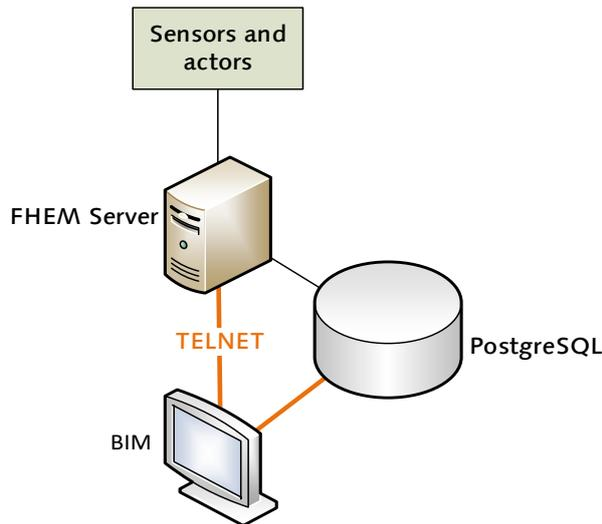

Figure1: Contributors in the part system
A smart home system with sensors and actors is installed at our chair. It shall be visualized in a suitable BIM environment for monitoring and facility management (FM). For this purpose, different tools and frameworks are in use and available. The goal is to connect our Smart home instance with a 3D model in Revit. Figure 1 shows a schema of the desired system.